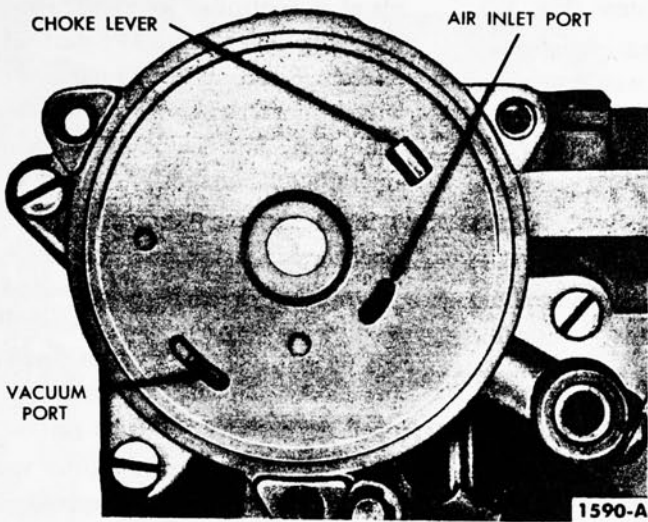

FIG. 8—Choke Housing Baffle Plate
When the engine reaches its normal operating temperature the spring no longer exerts an opposing tension on the choke plate. The air velocity acting on the offset choke plate as well as manifold vacuum acting below the choke plate forces it to the full open position. A baffle plate (Fig. 8) located in the choke housing, controls the speed of the temperature rise in the thermostatic spring housing. Small holes in the plate pass the heated air directly onto the thermostatic spring at low temperatures when the choke plate is closed. As the temperature rises and the choke plate opens, the baffle plate moves and the heated air is directed onto the spring by an alternate longer route which slows up the rate of temperature rise. When the spring allows the choke plate to be fully opened, the heated air is passed directly onto the spring and out of the choke housing by the shortest route. The thermostatic spring thus remains heated and the choke plate remains fully open until the engine is stopped and allowed to cool.
22). Position the bellcrank on the choke housing shaft and tighten the screw on the bellcrank clamp (refer to "Carburetor Bench Adjustments"). Install the fast idle cam pick-up lever on the bellcrank. Position the choke housing lever on the choke housing shaft and install the spacer, washer, and nut. Place a new choke housing gasket on the main body and position the choke housing on the main body engaging the fast idle cam pick-up lever in the hole in the fast idle cam. Install the choke housing lockwashers and screws. Install the choke housing baffle plate (Fig. 8). Be sure the holes in the inner plate fit over the vacuum passage boss and air inlet boss. Position the thermostatic spring housing gasket and housing on the choke housing aligning the index mark on the spring housing with the middle index mark on the choke housing. Install the clamp and retaining screws.